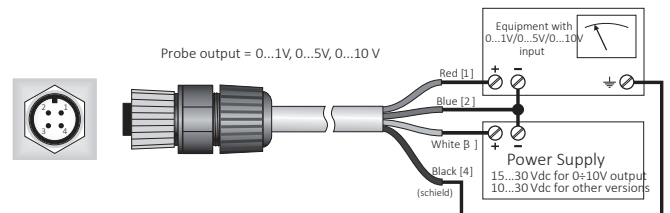

Fig. 8
- LP PYRHE 16 AV should be connected to a power supply device and to a multimeter according to the scheme below (figure 8), the load resistance for signal readout should be $\geq 100 k\Omega$: